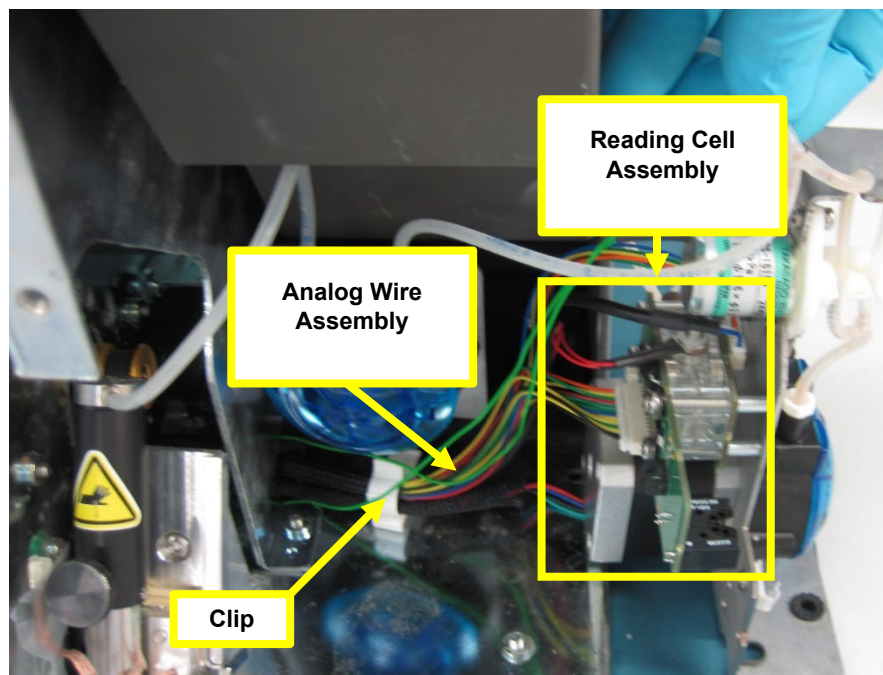

Figure 17
- 4.5. Remove the 4 screws on the Reading cell Assembly and remove the Analog wire from the clip. You will be able to completely remove the reading cell and analog wire. Figure 17.